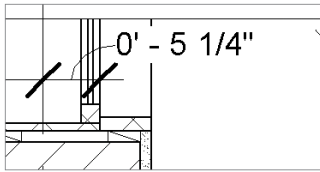

FIGURE 11.21 Modifying the text location
5. To relocate the text, grab the blue dot under the text and drag the text string to the right. Once the dimension text is outside the dimension string, Revit Architecture adds an arc associating the text to the dimension (Figure 11.21).